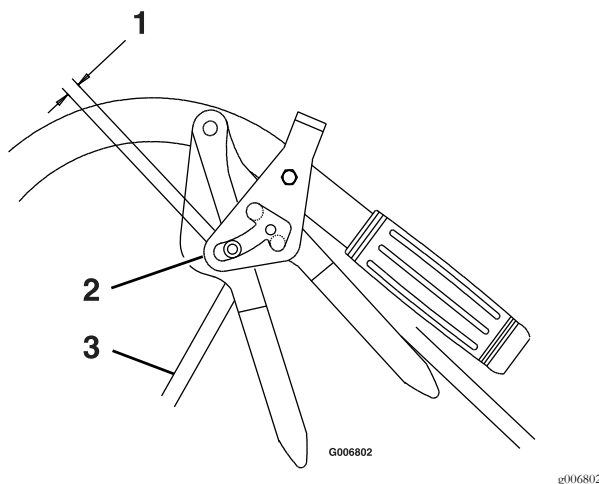

Figure 20
- B. Adjust drive linkage length by threading into or out of the swivel until there is a 3/16 inch to 1/4 inch (.47-.64 cm) clearance between the linkage assembly and the bottom of the slot in the neutral lock/park brake latch (see Figure 20).